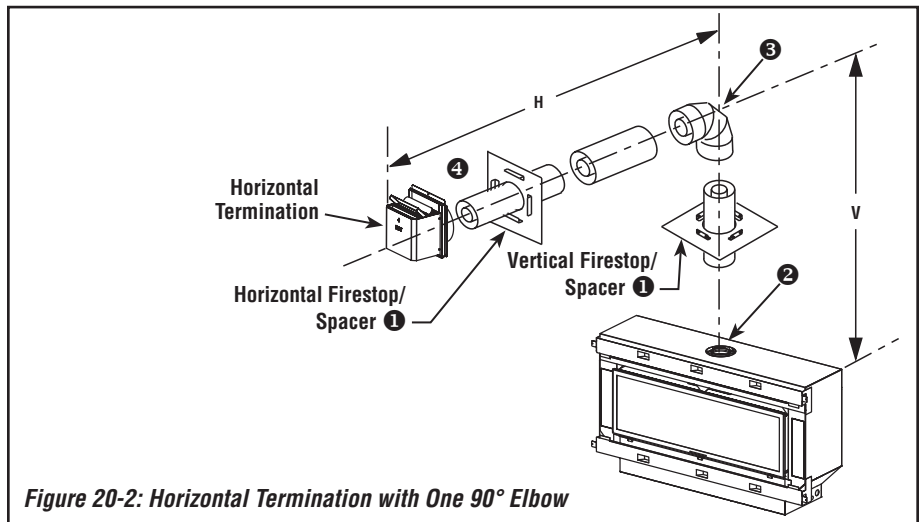

Figure 20-2: Horizontal Termination with One 90° Elbow
- Typical horizontal termination systems are shown in *Figures 20-2, 20-3, and 20-4*.